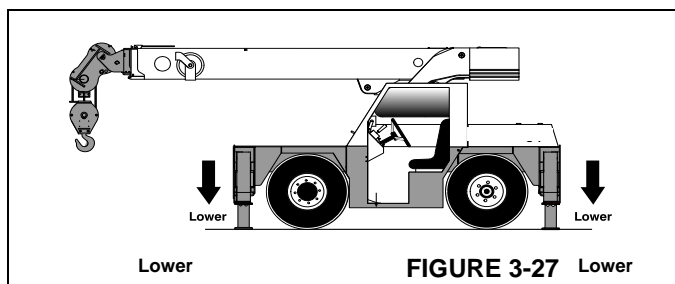

FIGURE 3-27
3. Push the top of the Extend/Retract Switch (2).
4. Press the accelerator pedal to increase the engine speed, which will accelerate the downward movement of the jacks (Figure 3-27). Release the accelerator pedal and the switch when the jacks are fully extended.